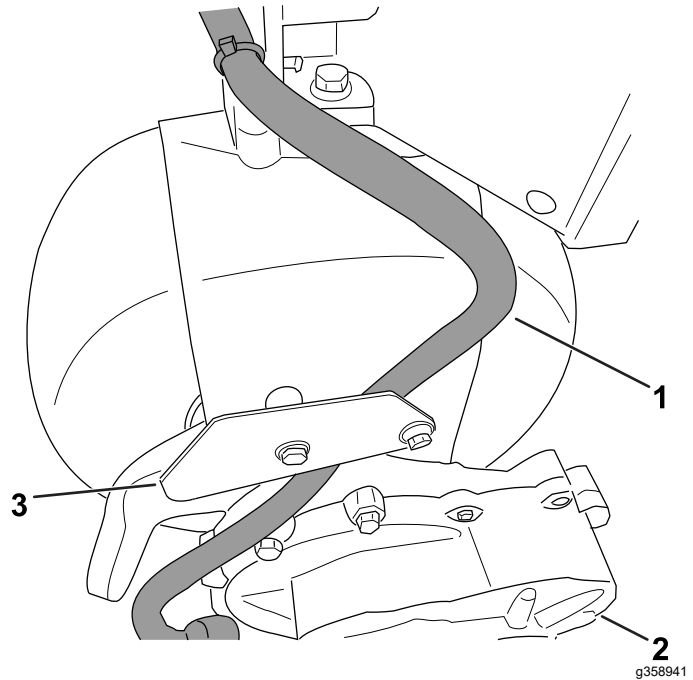

Figure 6
2. Route the gearbox wire harness toward the hood as shown in Figure 6.